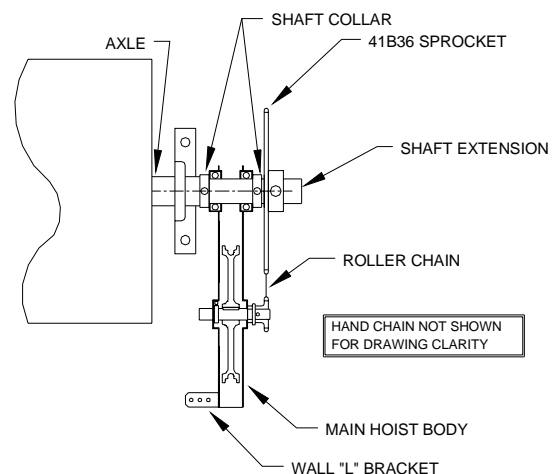

Figure 17.
11.3 **Reduced drive operator** — 4:1 chain hoist should be installed as shown in Figure 17.